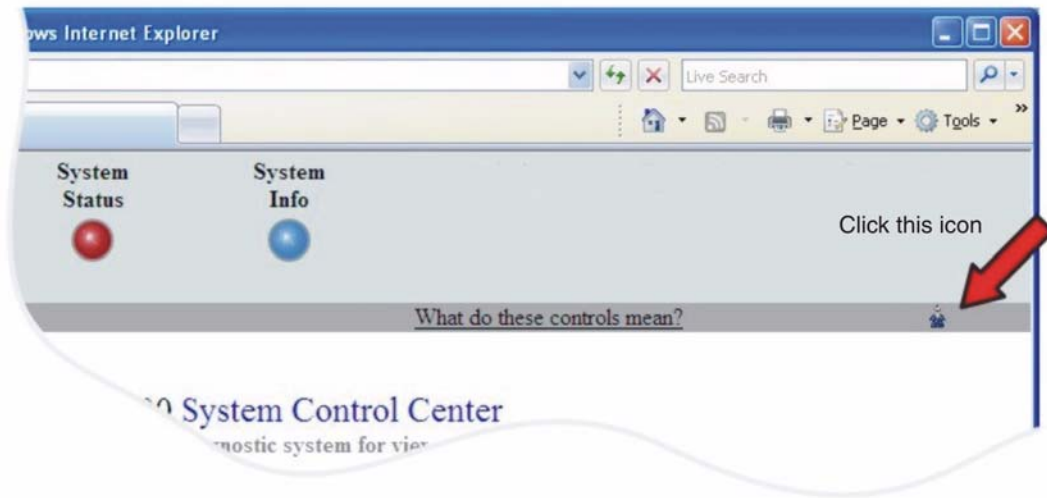

Figure 4: Icon to Installation screen
5. At the LUI System Control Center home page, click the small icon near the upper right area of the screen, as shown in Figure 4.